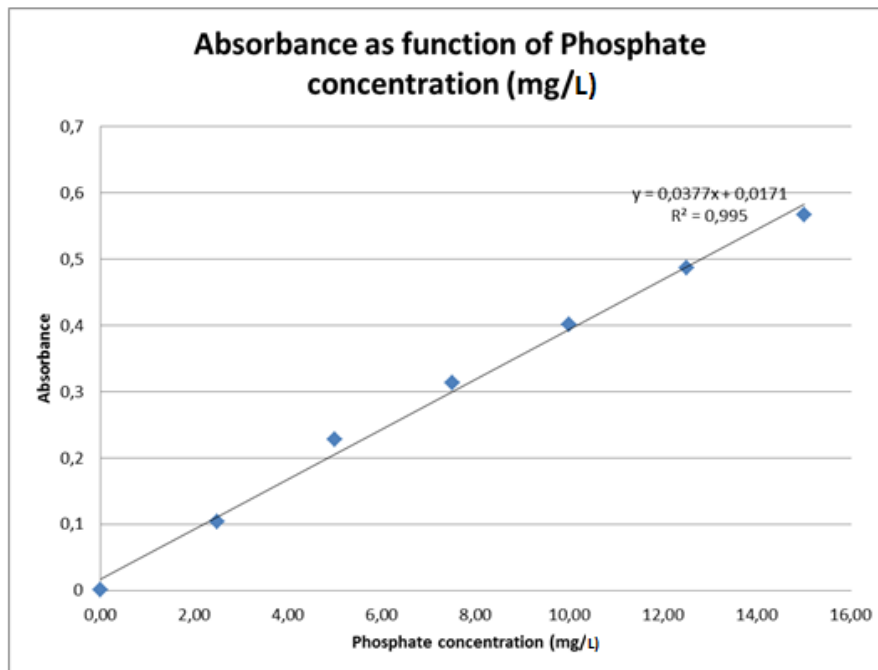

Figure 1.5. Standard curve for absorbance-phosphate concentration correlation.
8. Use the standard curve in **Figure 1.5** to determine the concentration